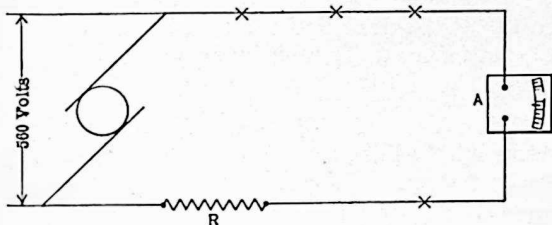

FIG. 50.
**Problem 34.** In Fig. 50, the ammeter reads 5.4 amp. Each lamp has a voltage of 100 volts across it.
**Problem 35.** If one lamp in Problem 34, Fig. 50, becomes short-circuited, what will  $R$  have to be made to keep the current down to 5.4 amp.?